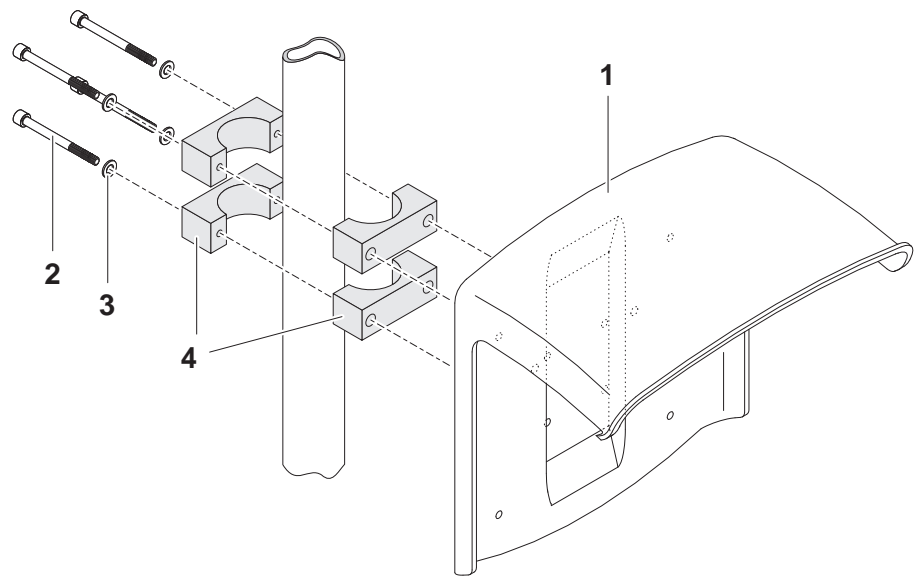

Fig. 3-15 Mounting the SSH/IQ sun shield on a mounting stand
- 1 Screw the sun shield (pos. 1 in Fig. 3-15) with the four hexsocket head screws (pos. 2), the washers (pos. 3) and the clamps (pos. 4) at the required height on the mounting stand from the back.